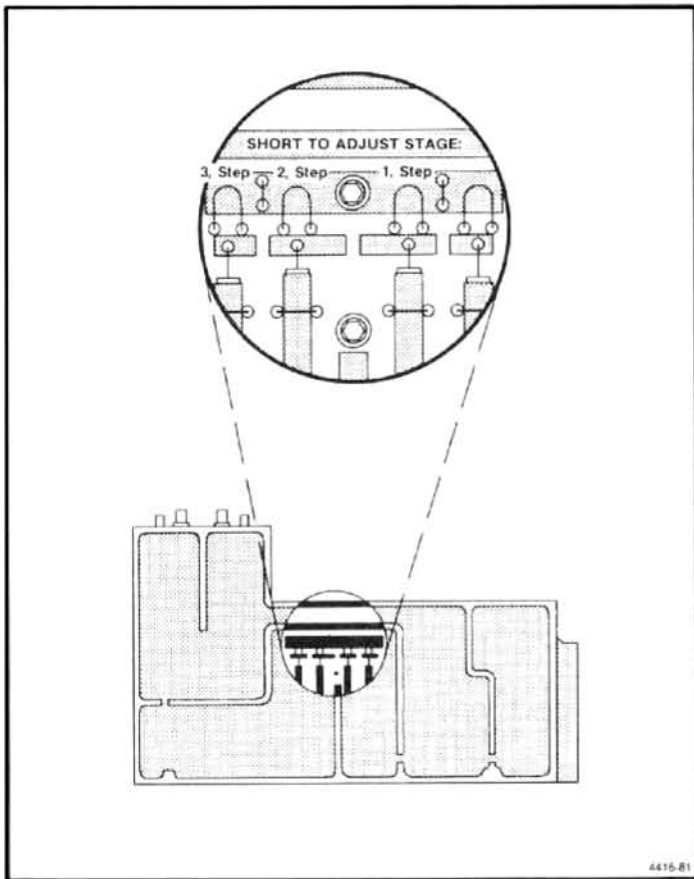

Figure 6-16. Filter tune tabs in the 829 MHz converter.
f. Adjust the $1/4$ wavelength lines in the filter in sequence, starting with the resonator at the 829.1 MHz input (see Figure 6-16). Adjustment is made by shorting the adjacent resonator to ground with a low inductance conductor, such as a broad blade screwdriver, then bend the loop or tab of the respective stub with a non-metallic tuning tool to change the series capacitance of the resonator.